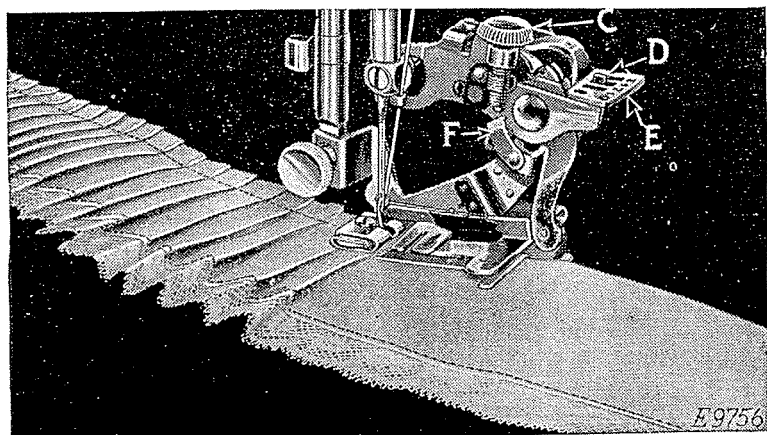

FIG. 64
Raise the adjusting lever (E, Fig. 64) and move it to the right so that the projection (D, Fig. 64)
will enter the slot marked "6" in the adjusting lever when the lever is released. The ruffling blade will then move forward and back once at every six stitches. To adjust the ruffling blade to make a plait once at every twelve stitches, place the adjusting lever (E, Fig. 64) so that the projection (D) enters the slot marked "12" in the adjusting lever. Insert the material to be plaited between the two blue blades, following the line (2, Fig. 59). The size or width of plaits is regulated by the adjusting screw
(C, Fig. 64) and the adjusting finger (F, Fig. 64). To make a wider plait, move the adjusting finger (F) back or toward the needle and turn the adjusting screw (C) downward. To make a smaller plait, turn the adjusting screw (C) upward. The distance between plaits is regulated by the length of stitch.